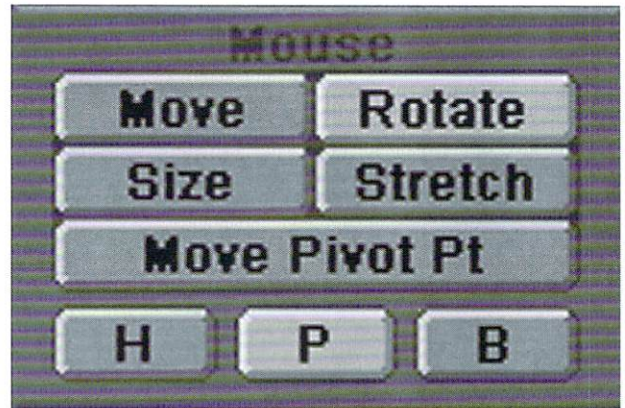

Figure 14: Heading and Bank axes are deselected, allowing only movement in the Pitch axis.
- Select Rotate for the null, and disable the Heading and Bank axes, leaving only the Pitch axis. This makes the vent act as if it is anchored and able to rotate in one direction (Figure 14).